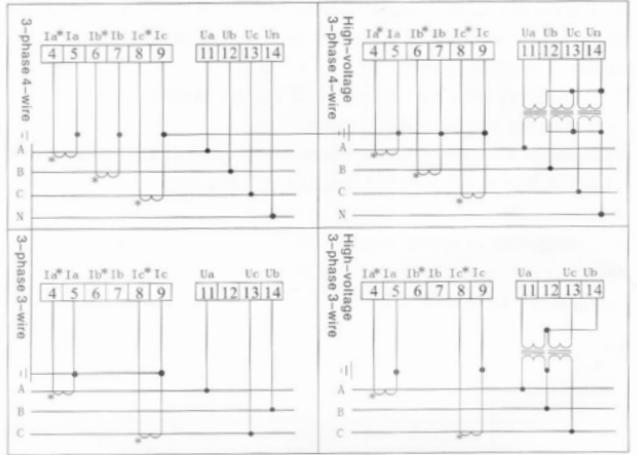

Figure 4
4.4.2 For Input Signal Connection (See Figure 4)